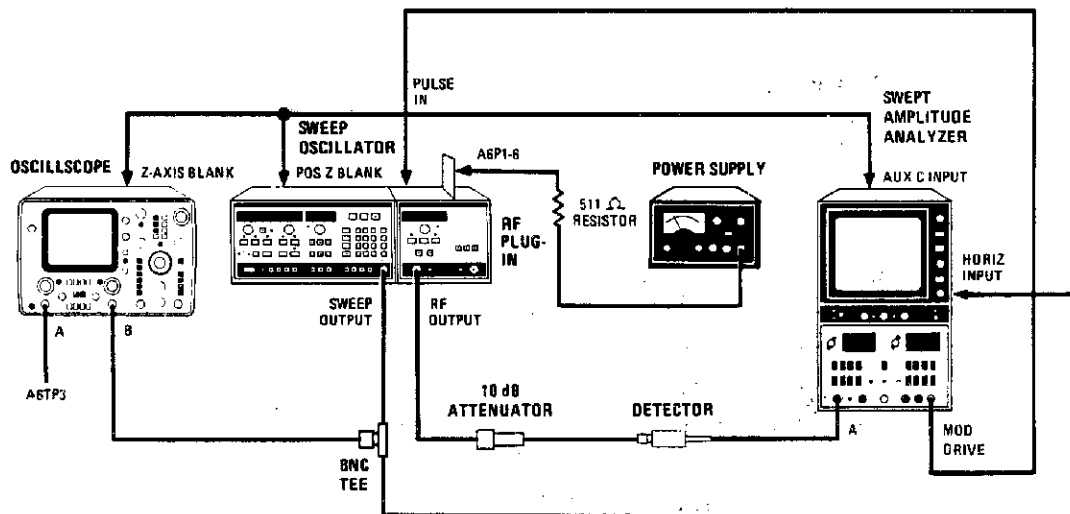

Figure 5-21. SRD Bias Adjustment Setup
1. Connect the equipment as shown in Figure 5-21 with the 83592C A6 Sweep Control board on an extender. Do not connect the power supply. With the LINE power OFF, remove the 83592C A4 ALC board. Connect the 8755C MODULATOR DRIVE output to the 83592C rear panel PULSE IN connector.
9. Set up the equipment as shown in Figure 5-21, with a 511 ohm resistor connected to A6P1-6 (reference to ground). Remove the 83592C A4 ALC board. Connect the 8755C Swept Amplitude Analyzer MODULATOR DRIVE output to the 83592C rear-panel PULSE IN connector.